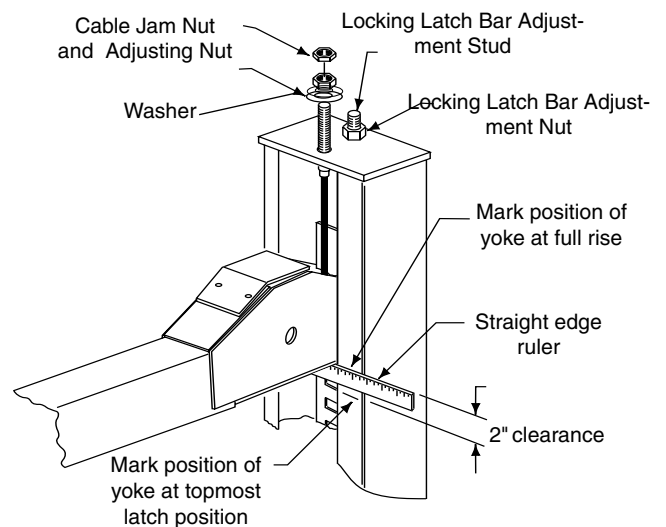

Fig. 28
1. Starting with the right front column: use a straight edge to mark the yoke height on the column, Fig. 28.
- b. If entire 2" clearance cannot be attained by adjusting the locking latch bar, adjust the cable stud. Loosen cable jam nut, Fig. 28, and turn adjusting nut to raise the locking latch 2" above bottom of latch bar slot. Tighten cable jam nut.